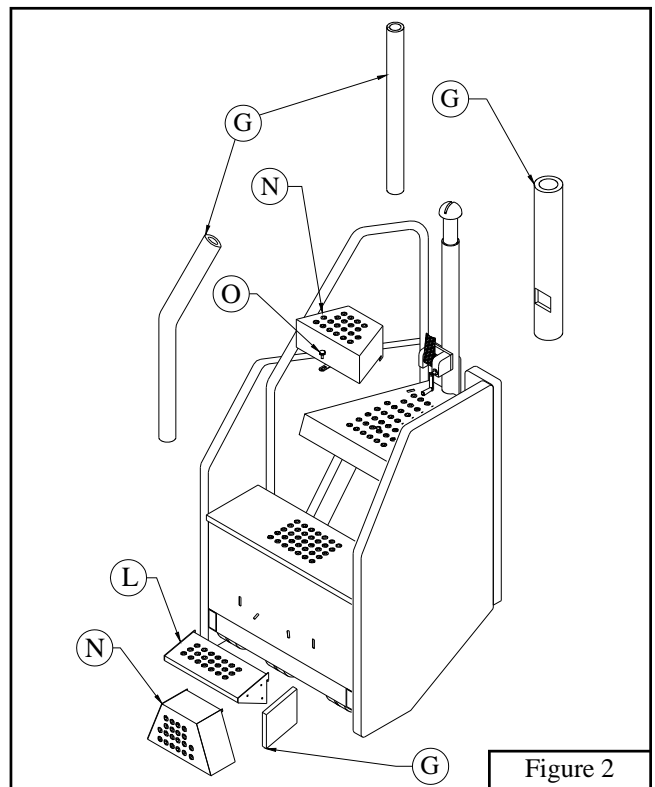

Figure 2
4. Use the vinyl covers to install *Hand Rail Padding* (G) and *Pole Padding* (G). Feed the winch strap through the open slot in the winch pad (not shown) and fit winch pad onto winch. Install pole padding to the *VB81 Down Official Standard* (A) (not shown). See Figure 2.
5. Use *1/4" X 1" Hex Bolts* (I) and *1/4" Flat Washers* (J) to attach *Step Pads* (G) to *Step* (L). *Step* (L) has two tabs that fit into the vertical slots on the back of the ballast box. **MAKE SURE THAT THE STEP IS FULLY INSERTED AND PRESSED DOWN TO LATCH SECURELY.** See Figure 2.
6. If you require additional height on the judges platform you can use *Platform Riser* (N). *Platform Riser* (N) has two tabs that fit into diagonal slots in the judges platform. **MAKE SURE THE PLATFORM RISER IS FULLY INSERTED AND PULLED BACK TO LATCH SECURELY.** Use *Platform Riser Hold Down Knob* (O) to secure the back of *Platform Riser* (N) to the judges platform. To store *Platform Riser* (N) remove from judges platform, screw *Platform Riser Hold Down Knob* (O) into the threaded hole on the back of *Platform Riser* (N). Hang *Platform Riser* (N) from the back of the ballast box below the *Step* (L) as shown or you can store *Platform Riser* (N) on the front inside wall of the ballast box. See Figure 2.
7. When using *Platform Riser* (N) it is recommended to raise *Hand Rails* (M) 84" from the ground. Loosen set screws, raise *Hand Rails* (M) and re-tighten set screws with the *3/16" Hex Key* (P).